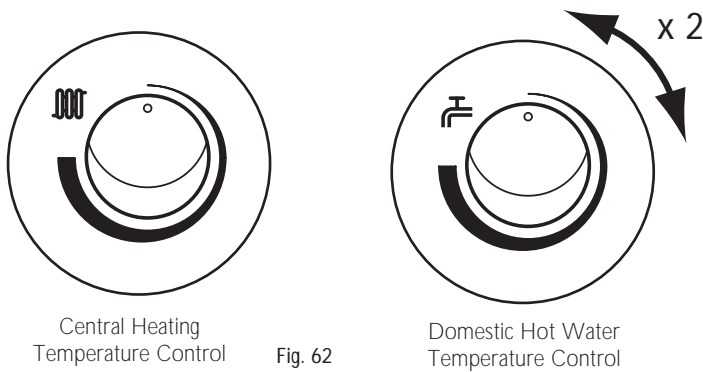

Fig. 62
3. Turn both temperature control knobs fully anticlockwise, then quickly turn the DHW temperature knob $\frac{1}{4}$ clockwise twice and back fully anticlockwise (Fig. 62).